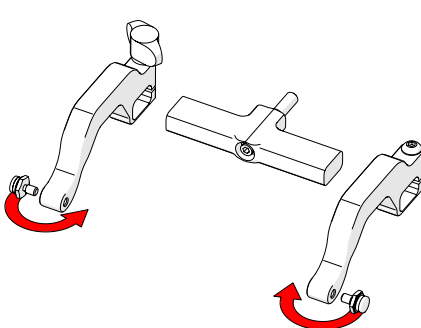

Fig. 58 - Position pivot buttons
5. Position the pivot buttons to the inside of the probe holder arms (Fig. 58).